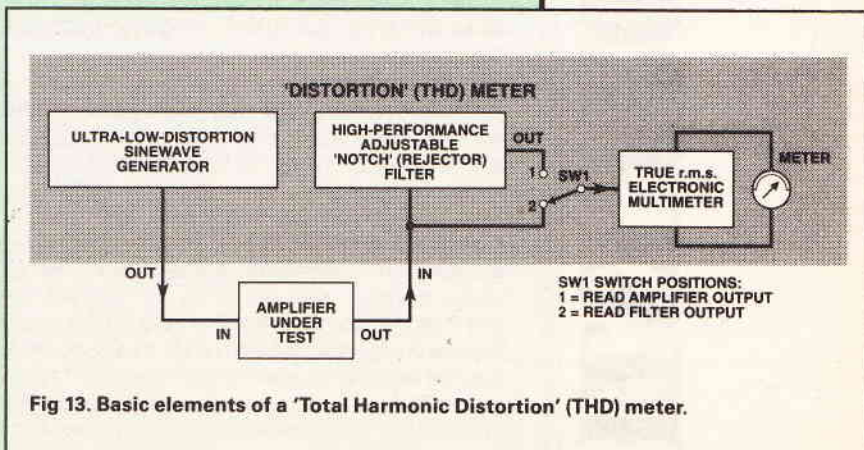

Fig 13. Basic elements of a 'Total Harmonic Distortion' (THD) meter.
**DISTORTION-FACTOR METERS.** These instruments enable the inherent distortion of a sine wave signal to be accurately measured in terms of total harmonic distortion (THD), and are used in checking the linearity performance of audio amplifiers, etc. They consist of an ultra-low-distortion sinewave generator, a high-performance twin-T (or similar) adjustable notch or 'rejector' filter, and an electronic millivoltmeter that gives a reading of true RMS values, all interconnected as shown in Figure 13. Here, the sinewave generator is first set to the desired test frequency (usually 1kHz) and its output is fed to the input of the test amplifier; the output of the amplifier is connected to the input of the notch filter. The output level of the amplifier is then set to some convenient reference value (e.g., 1V), which is read on the built-in meter with SW, set to position '1'; SW is next set to position '2' to monitor the output of the notch filter, which is then tuned about the 1kHz test frequency to give the minimum possible meter reading. Under this condition the notch filter totally rejects the fundamental 1kHz test signal, and only its harmonics reach the RMS reading meter, which thus gives an accurate reading of THD (e.g., a reading of 1mV corresponds to 0.1% of the filter input signal, and thus represents a THD value of 0.1%).